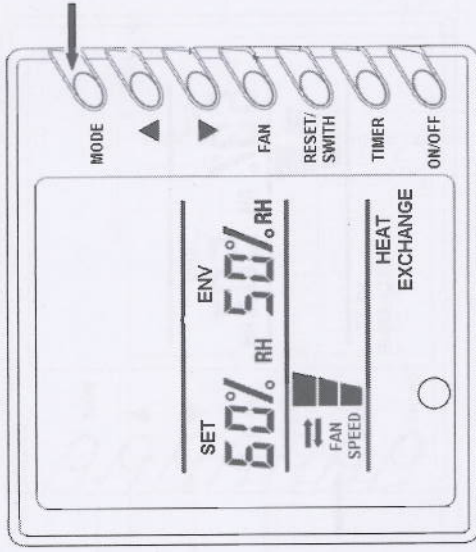

Fig.7
- 5) Running Mode Setting (Fig.7)